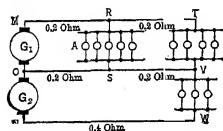

FIG. 109. Three-wire system.
**Prob. 117-5.** Assume that each lamp in Fig. 109 takes 1.5 amperes, and that the resistance of the lamps remains constant.